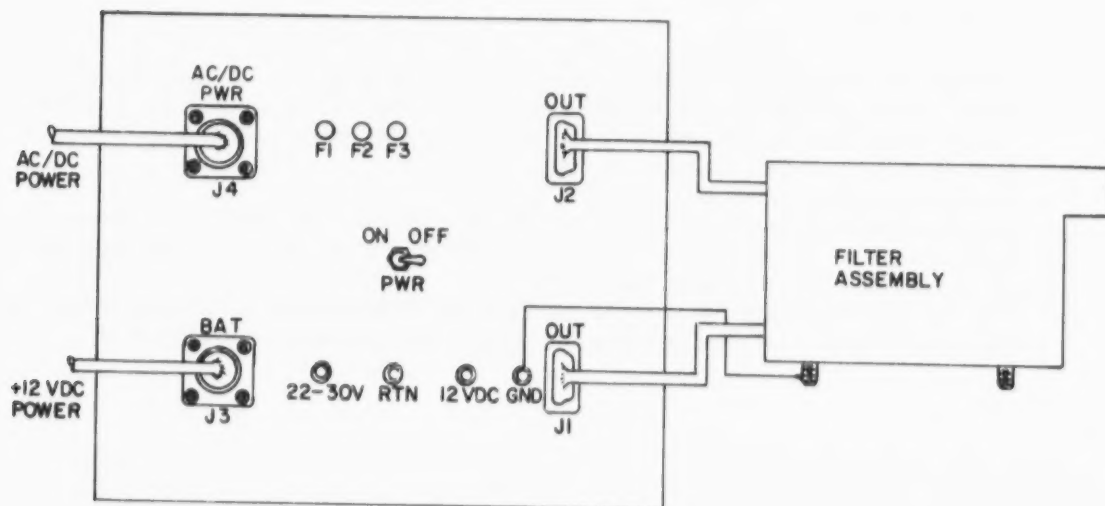

Figure 6-24. FILTER TEST SETUP
d. Test Setups and Procedures for Filter Assembly (fig. 6-24).